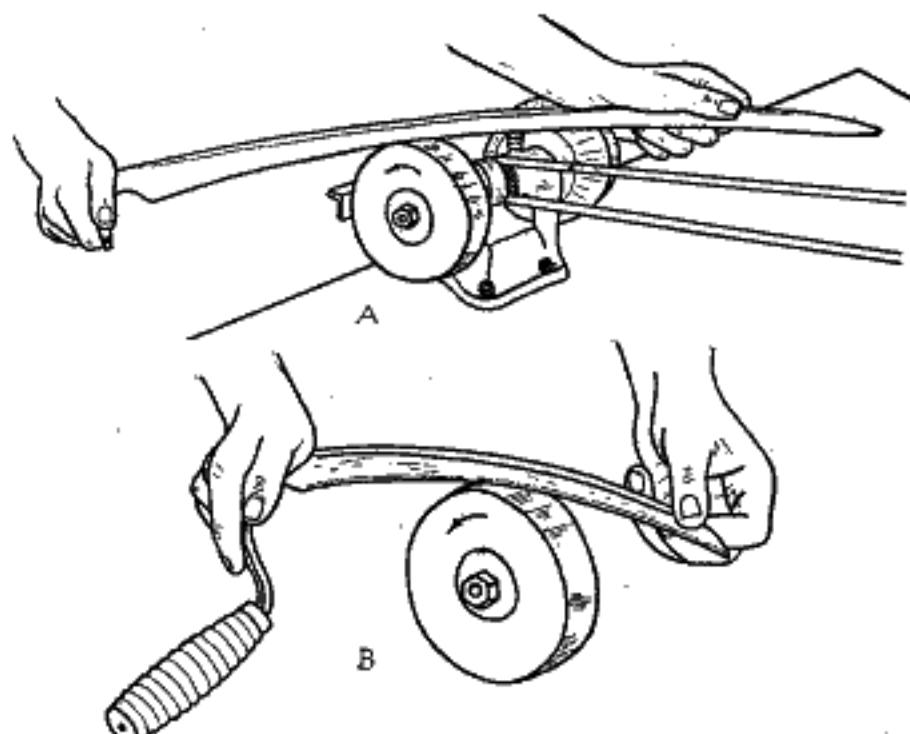

FIG. 121.—Scythes and grass sickles are easily sharpened on a grinding wheel, although they may be sharpened by rubbing with a scythe stone or by filing.
**139. Scythes and Grass Sickles.**—Scythes and grass sickles are easily sharpened on a grinding wheel. Such tools do not require keen cutting edges like plane bits and are commonly left with the wire edge on them. A blade should be lifted frequently while grinding to make sure that it is being ground at the original bevel. The grinding is best done by holding the blade at a considerable angle to the grinding wheel (see Fig. 121).